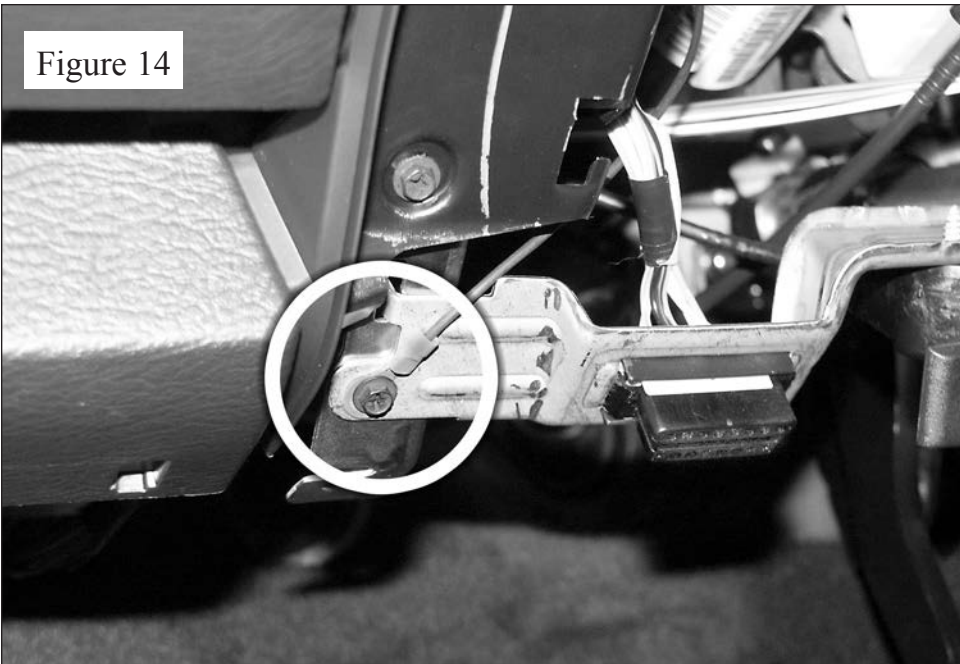

Figure 15
bolt & nut, and two (2) washers to temporarily mount compressor panel upright at this location. Hand tighten the bolt. See **Figure 15** for the correct orientation.
**52.** Align the 5/16" hole on the side of the compressor panel so it touches the sheet metal bracket. Mark the mounting location to be drilled with a center punch. Remove the pump and drill a 3/8" hole at the mark location on the sheet metal bracket. Remove any burrs. The supplied 5/16" bolt & nut, and two (2) washers are to be used in this hole to secure the compressor panel.